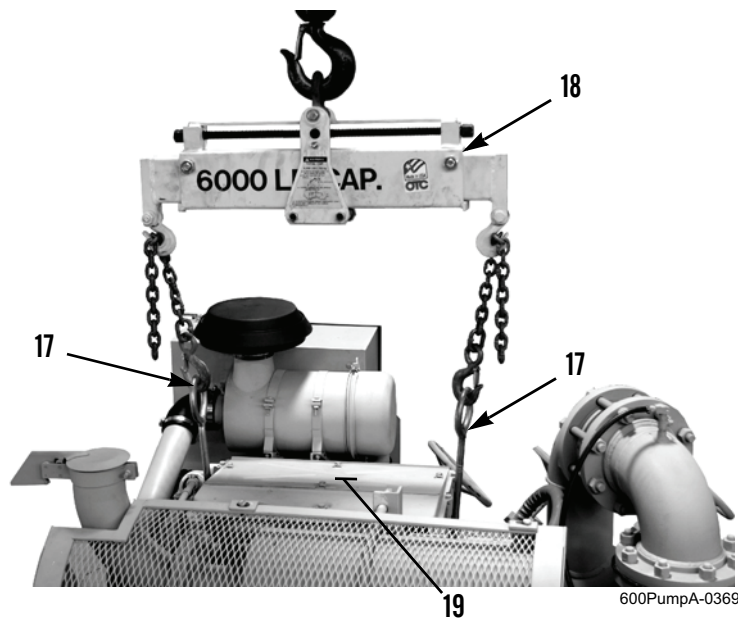

Figure 10. Lifting Eyebolts.
1. Install two lifting eyebolts (Figure 10, Item 17) to front and rear of engine (Figure 10, Item 19).
2. Connect lifting device with spreader bar (Figure 10, Item 18) to lifting eyebolts (Figure 10, Item 17), support engine (Figure 10, Item 19) with lifting device, and raise lifting device until all slack is removed from chains.